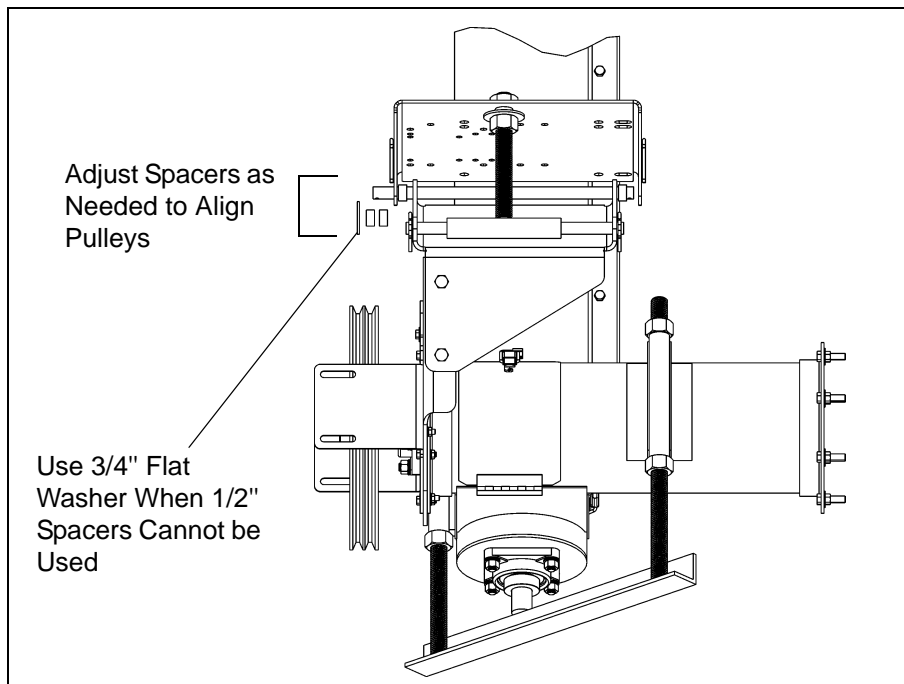

Figure 4T
- B. Install the Drive Pulley onto Motor Shaft making sure that it is aligned with the Flight Pulley. It may be necessary to move spacers to gain shaft alignment. Use the 3/4" flat Washer where the 1/2" Spacers cannot be used. (*See Figure 4T*)